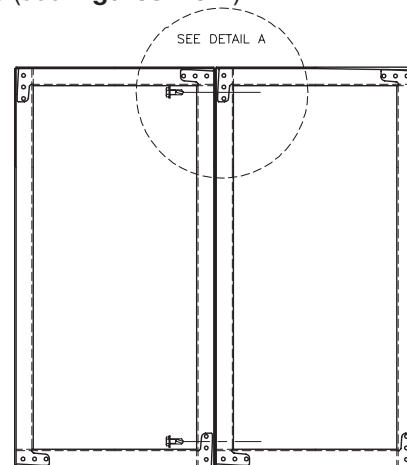

Figure 1
3) The damper sections must be attached together with #10 x 3/4 in. (19mm) max. sheet metal screws, 1/4 in. (6mm) diameter nuts and bolts, tack or spot welds, or 3/16 in. (4mm) diameter steel pop rivets. Attachments must be spaced a maximum of 12 in. (305mm) on centers and a maximum of 2 in. (51mm) from corners. Attachments must be made on front face and back face (air entering and air exiting side) of damper sections (see **Figures 1 & 2**).